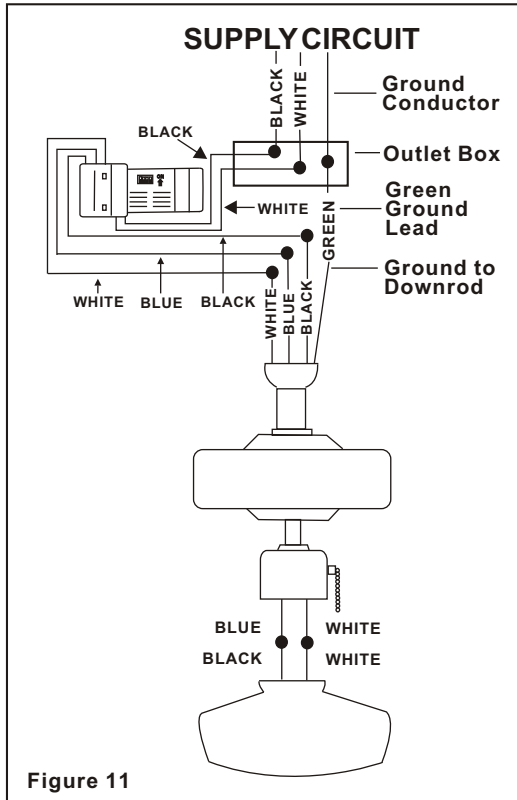

Figure 11
Step 2. (Figure 11) Motor to Receiver Electrical Connections: Connect the black wire from the fan to black wire marked "TO MOTOR L". Connect the white wire from the fan to the white wire marked "TO MOTOR N" from the receiver. Connect the blue wire from the fan to the blue wire marked "For Light" from the receiver. Secure the wire connections with the plastic wirenuts provided.
Step 3. (Figure 11)Receiver to House Supply Wires Electrical Connections: Connect the black (hot) wire from the ceiling to the black wire marked "AC in L" from the receiver. Connect the white(neutral) wire from the ceiling to the white wire marked "AC in N" from the Receiver. Secure the wire connections with the plastic wire nuts provided.
Step 4. (Figure 11) If your outlet box has a ground wire (green or bare copper) connect it To the fan ground wires; otherwise connect the hanging bracket ground wire to the mounting bracket. Secured the wire connection with a plastic nut provided. After connecting the wires spread them apart so that the green and white wires are on one side of the outlet box and black and blue wires are on the other side. Carefully tuck the wire connections up into the outlet box.